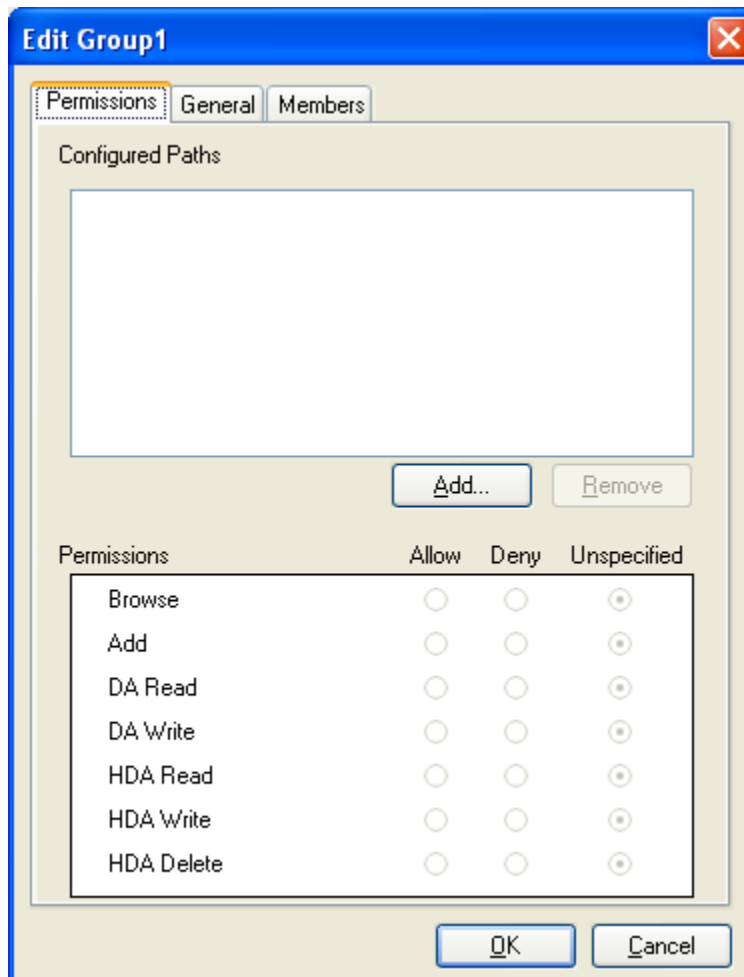

Figure 72 - Edit <Groupname> Window (Permissions Tab)
- The **Edit <Groupname>** window (Figure 72) appears (for NT Groups, there is only the **Permissions** tab). Follow the instructions in the **Edit Group** section for adding permissions.
6. The **Edit <Groupname>** window (Figure 72) appears. Follow the instructions in the **Edit Group** section for adding permissions.
2. The **Edit <Groupname>** window (Figure 72) appears.